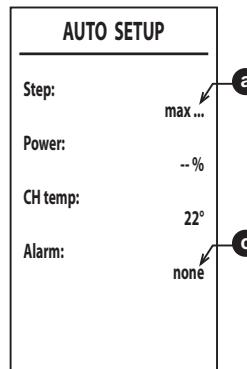

fig. 53
- If the ignition phase is unsuccessful, the message **[max\_err]** appears at point  and an error code at point  (fig. 53). Possible causes of failed ignition are listed in **Note 2**. Exit Auto Setup with button , eliminate the fault and repeat the procedure from point 1.